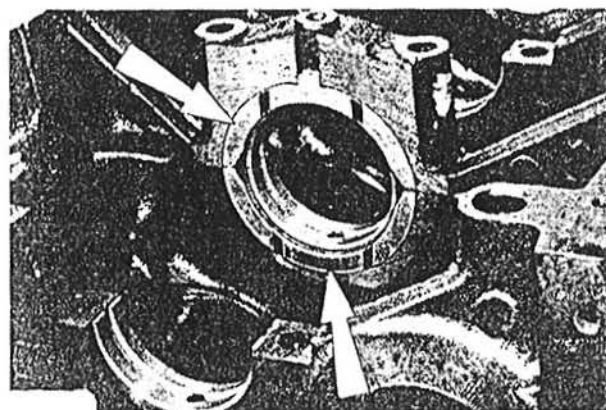

Fig. 1.16 Crankshaft thrust washers – arrowed (Sec 80)
- 1 With the engine upside down, lay each of the upper bearing halves onto the appropriate crankcase web, making sure that the locking tang on the bearing is properly engaged in the corresponding slot in the crankcase web. If the old bearings are being refitted, make certain that each bearing half is fitted on the place from which it was removed. Fit the thrust washers to each side of the centre bearing, the grooved faces of the washers being outwards (Fig. 1.16). Retain the thrust washers in place with grease.